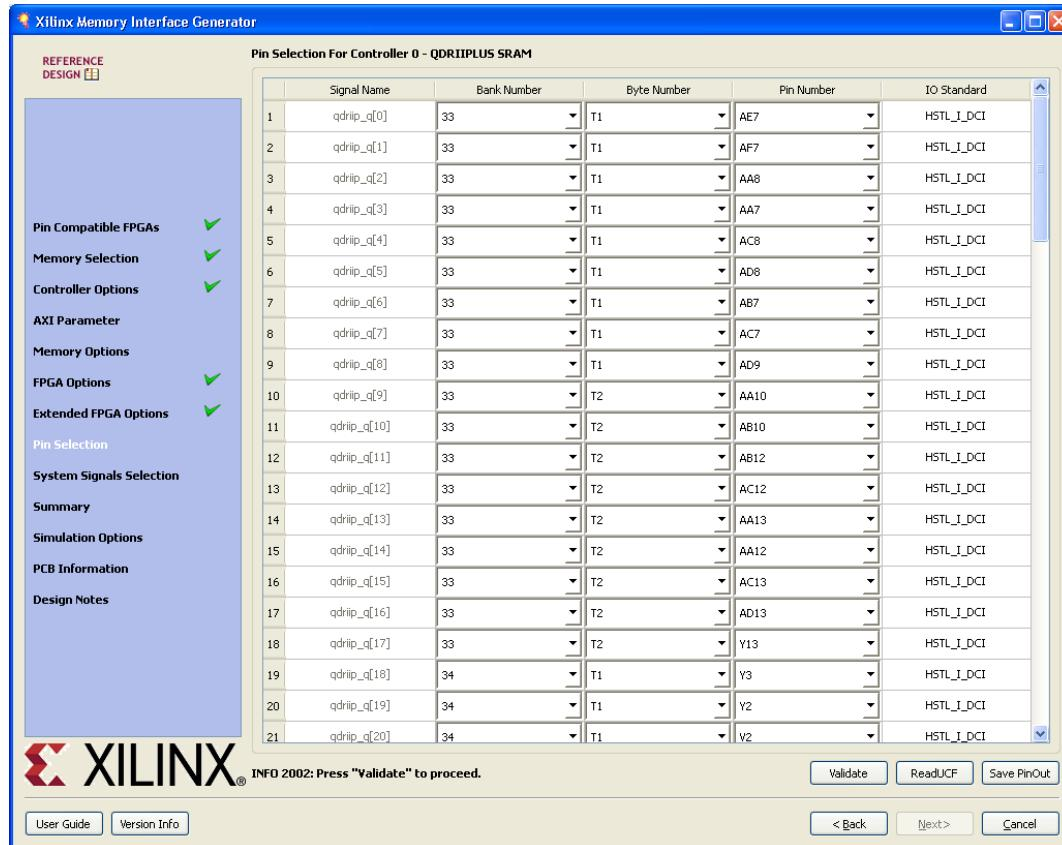

Figure 2-24: Pin/Bank Selection Mode
- **Pin/Bank Selection Mode** – This allows you to specify an existing pinout and generate the RTL for this pinout or pick banks for a new design. Figure 2-24 shows the options for using an existing pinout. You must assign the appropriate pins for each signal. A choice of each bank is available to narrow down the list of pins. It is not mandatory to select the banks prior to selection of the pins. Click **Validate** to check against the MIG pinout rules. You cannot proceed until the MIG DRC has been validated by clicking **Validate**.